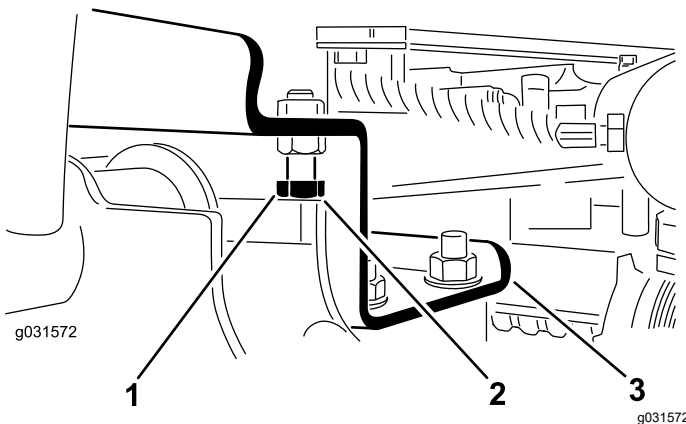

Figure 13
- A. Back off the stop bolts (Figure 13).
2. Ensure that the clearance between each lift arm and stop bolt is 0.13 to 1.02 mm (0.005 to 0.040 inch) as shown in Figure 13.